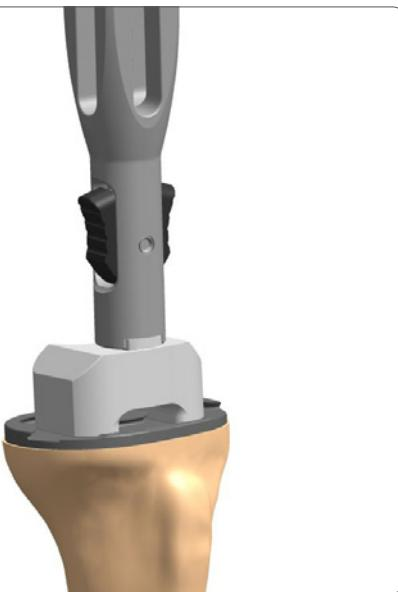

Figure 52
4. Connect the Modular Tibia Impactor to the Modular Handle. Use a mallet to fully seat the Tibial Baseplate Component onto the proximal tibia (**Figure 52**).